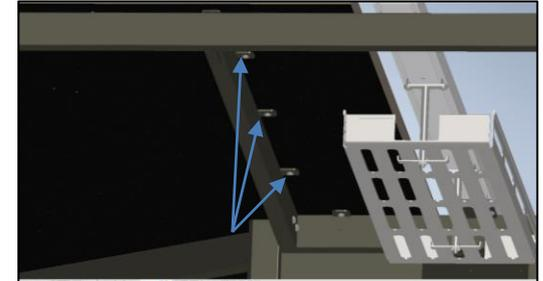

Figure 10
5. Position and secure tops to stretchers using the #10 x  $\frac{7}{8}$  PHP screws provided. Top should overhang  $\frac{1}{4}$ " on each side. Repeat for each side (Figure 10 & 11)